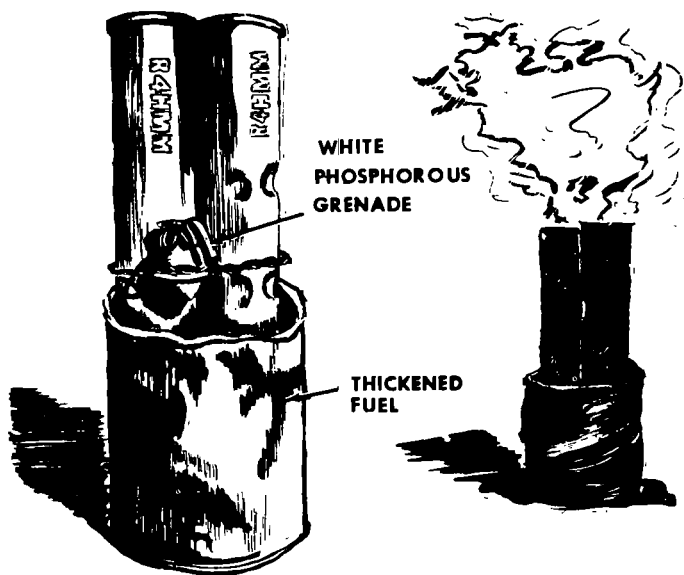

Figure 127. The Husch flare.
- (2) The Husch flare (fig. 127) is a device constructed from metal containers, thickened fuel, and a white phosphorus grenade. It provides illumination over an area approximately 90 meters in diameter for about 1 hour.